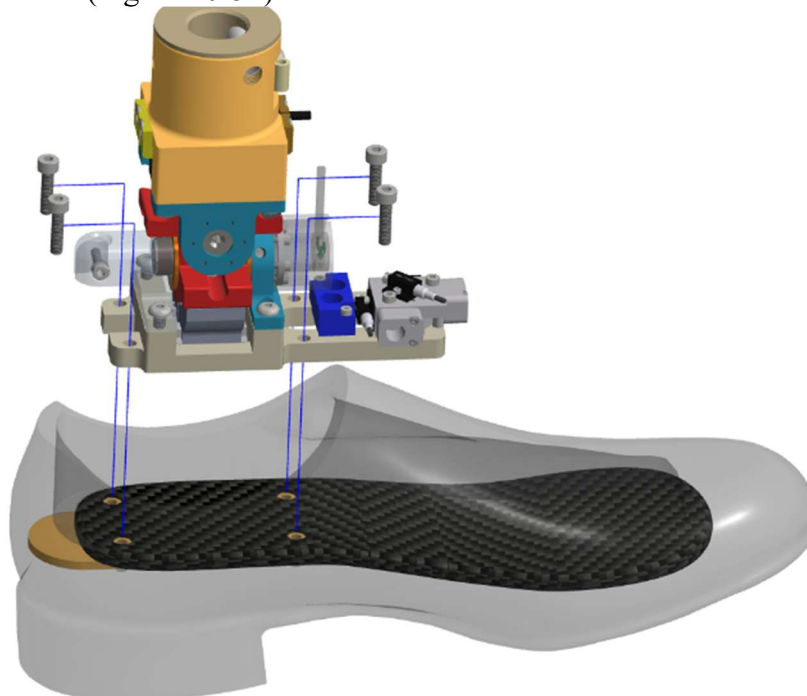

Figure 10-51. Attach the Molded Shoe Assembly (474-5903-1,2)
10.3.16 Attach the Molded Shoe Assembly (474-5903-1,2) to the ankle using four M4 X 0.7 X 16 LG. SHCS (Figure 10-51).